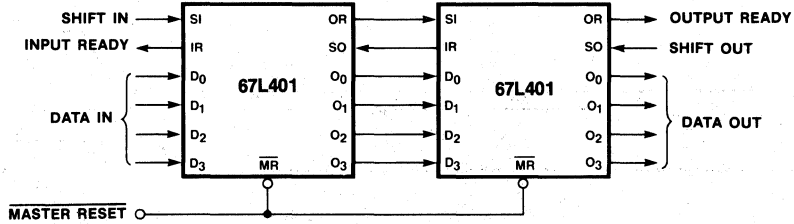

Figure 11. Cascading FIFOs to Form 128 x 4 FIFO with 67L401's
After power up the Master Reset is pulsed low (Fig. 11) to prepare the FIFO to accept data in the first location. When Input Ready (IR) is HIGH the location is ready to accept data from the D_x inputs. Data then present at the data inputs is entered into the first location when the Shift In (SI) is brought HIGH. A SI HIGH signal causes the IR to go LOW. Data remains at the first location until SI is brought LOW. When SI is brought LOW and the FIFO is not full, IR will go HIGH, indicating that more room is available. Simultaneously, data will propagate to the second location and continue shifting until it reaches the output stage or a full location. The first word is present at the outputs before a shift out is applied. If the memory is full, IR will remain LOW.